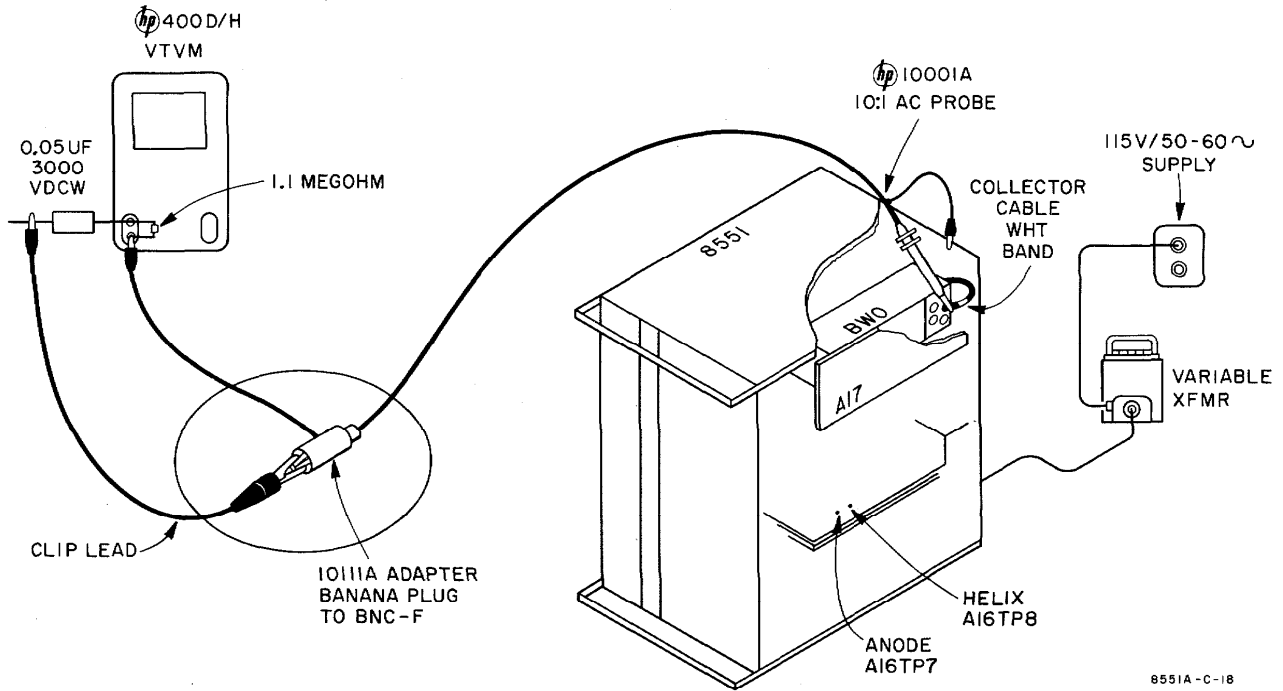

Figure 5-20. Setup, 8551 BWO Ripple Voltage Measurement
- b. Check the BWO supplies for ripple; setup is shown in Figure 5-20, and limits and test points are given in